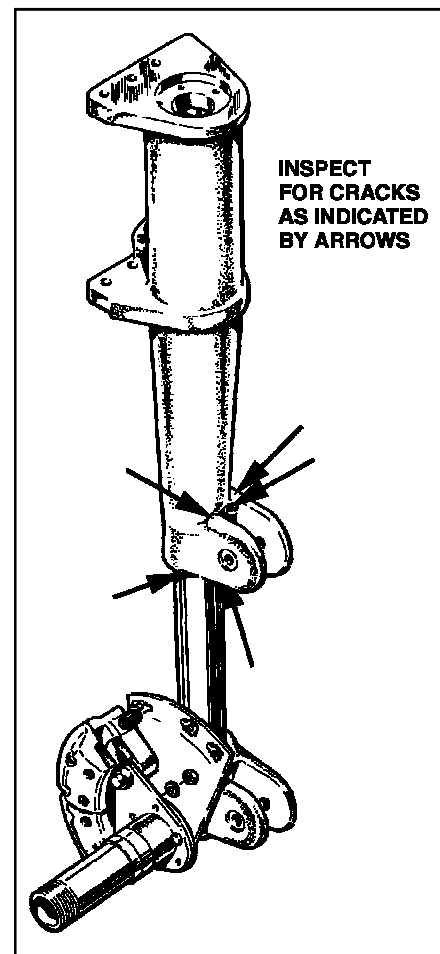

Figure 3-6. Main Gear Strut Cylinder
- (a) Thoroughly clean the area to be inspected as indicated in Figure 3-6 using a suitable cleaner.
- (b) Using a 10X power magnifying glass, visually inspect the gear cylinder top and bottom radii at the torque link attach lugs for cracks (Figure 3-6). If no cracks are found by visual inspection, proceed to Liquid Penetrant Inspection per latest revision of AC43.13-1 to check for cracks. Strip the paint and primer from the area to be inspected using a commercially available chemical paint stripper taking care only to remove paint and primer from the inspection area.